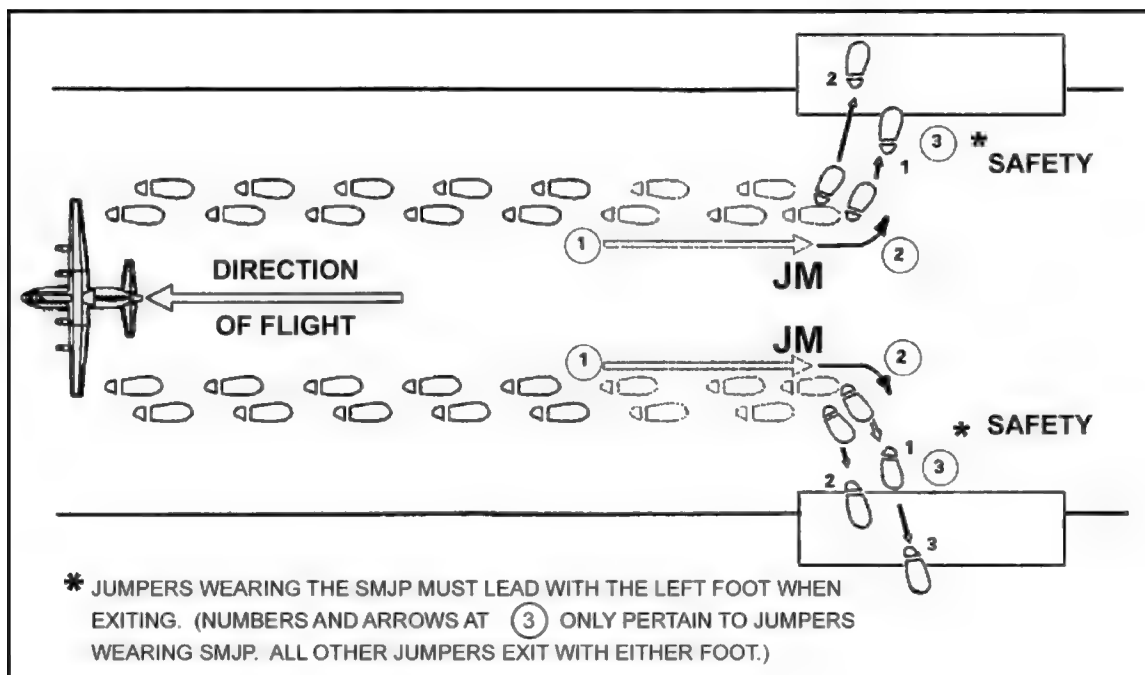

Figure 5-9. Jumper execution upon receiving the command STAND BY.
(1) At this command, parachutist number 1 shuffles toward the door, establishes eye-to-eye contact with the safety, hands the safety his static line, holds his elbows firmly into his sides with his palms on the end of the reserve, turns and centers himself in the open jump door, and awaits the command GO.
(2) All following parachutists maintain the static line bight and close up behind the preceding parachutist (Figure 5-9).